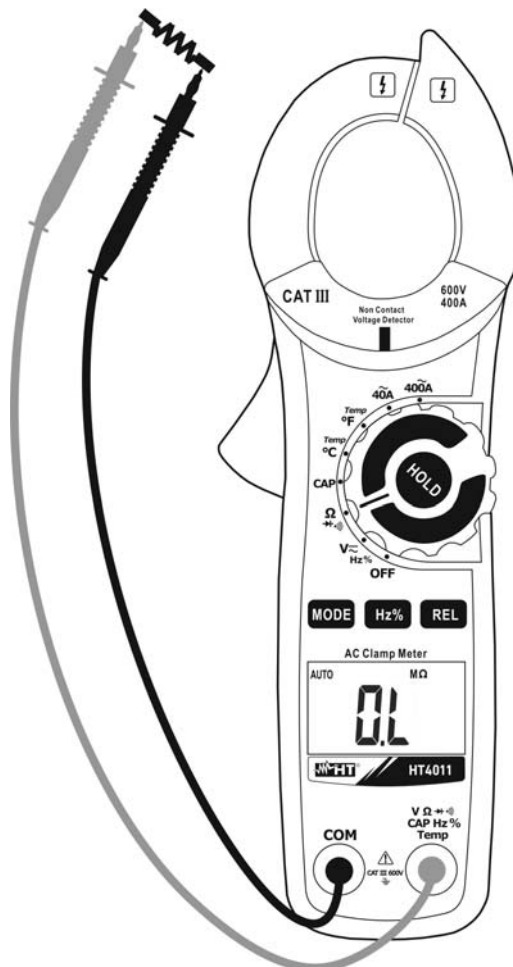

Fig. 5: Use of the clamp for Resistance measurement
3. Position the test leads in the desired points of the circuit to be measured (Fig. 5). The display shows the value of resistance.